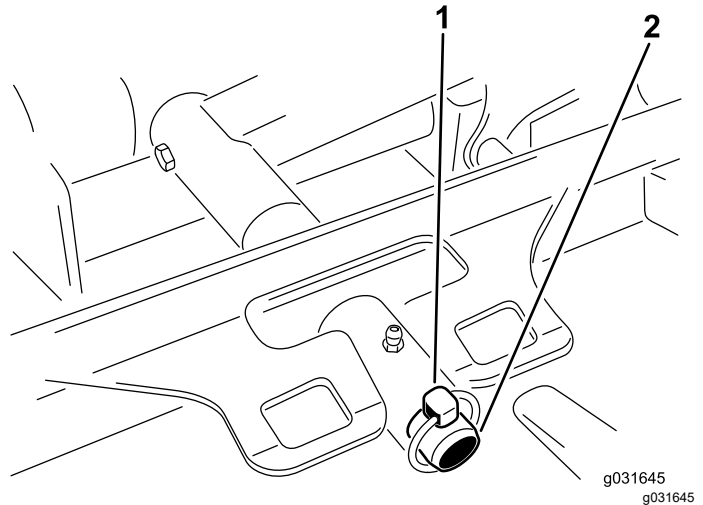

Figure 69
3. Remove the lynch pin or retaining nut securing the cutting unit carrier frame to the lift-arm-pivot pin (Figure 69).
3. Slide the cutting unit carrier frame onto the lift-arm-pivot pin and secure it with the lynch pin or retaining nut (Figure 69).